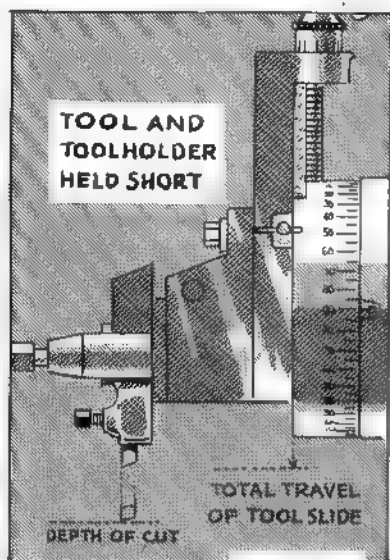

FIG. 368
2. Position the tool slide so that when the tool is moved down to the finished size, there will not be more than one inch overhang of the tool slide (Fig. 368).
7. Set the tool holder in the tool post in a vertical position with as little overhang as possible (Fig. 368).
9. Hold the tool short in the tool holder (Fig. 368) and tighten the tool holder set screw to hold the tool in place.